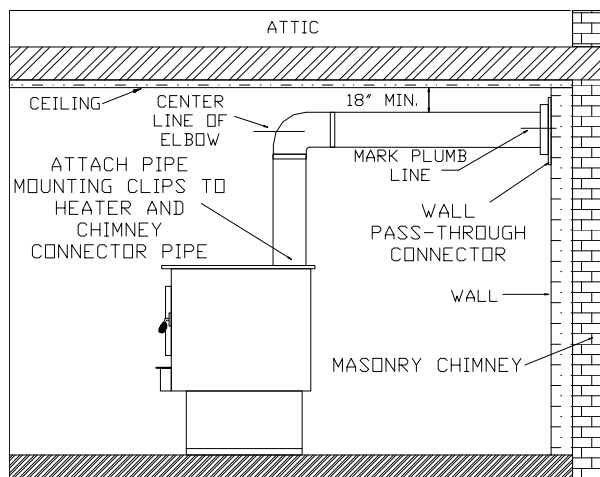

Figure 7
1. Before connecting these units to a masonry chimney, determine that masonry fireplace wall pass-through connector thimble meets **NFPA-211** Code and local building codes and is a minimum of 18" from ceiling. If connector thimble does not meet these codes, a pass-through connector must be modified. (See Figure 7.)